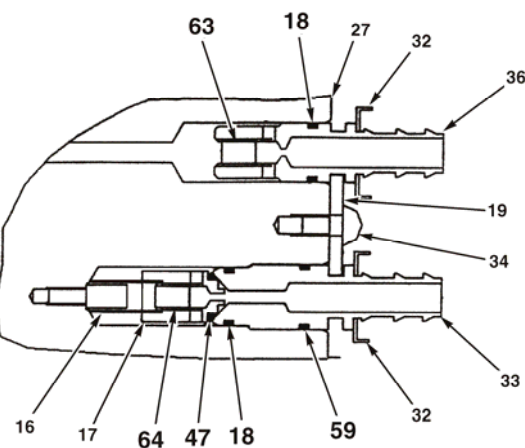

Figure 9. Adjustable to Fixed Orifice Conversion (Mod J)
B. Conversion Procedure (See Figure 9 and IPL Figure 1, Sheet 2 and Detail J)
1. Remove the screw (34) from the body (27).
2. Remove the hose fittings (33 and 36) and the retainer (19) from the body (27).
3. Using a 1/8-inch hex wrench, remove the needle valve screw (46) from the hose fitting (36).
4. Install the air orifice (63) (red dot) in the hose fitting (33). Tighten the orifice until it is fully seated in the hose fitting.
5. Remove the poppet (17) from the body (27). Long nose pliers can be used if necessary.
6. Using a 1/8-inch hex wrench, remove the needle valve screw (46) from the poppet (17).
7. Install the fuel orifice (64) (green dot) in the poppet (17). Tighten the orifice until it is fully seated in the poppet.
10. Make sure the spring (16) is installed in the body (27). Install the poppet (17) in the body.